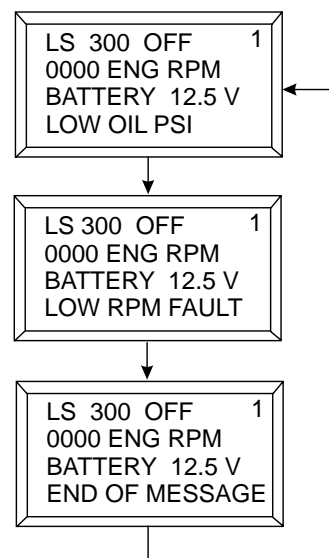

Figure 24. Primary Screen (Ignition Key ON)
6. When the ignition key is in the **ON** position, the **digital readout screen** (primary) will cycle through 3 displays as shown in Figure 24.